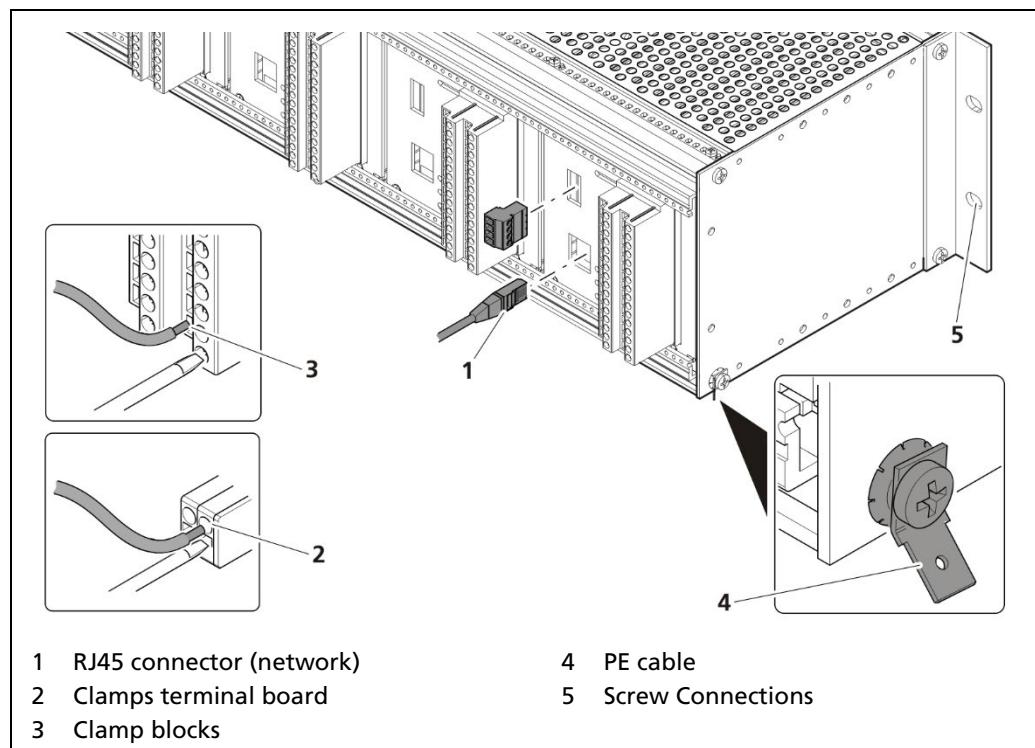

Fig. 148 Decommissioning 19" subrack
2. Remove the network plug (Fig. 148, item 1).
3. Remove all lines from the terminal board (Fig. 148, item 2) or the clamp blocks (Fig. 148, item 3).
4. Remove the PE cable (Fig. 148, item 4).
5. Remove the connections (Fig. 148, item 5) and pull the subrack from the 19" rack.